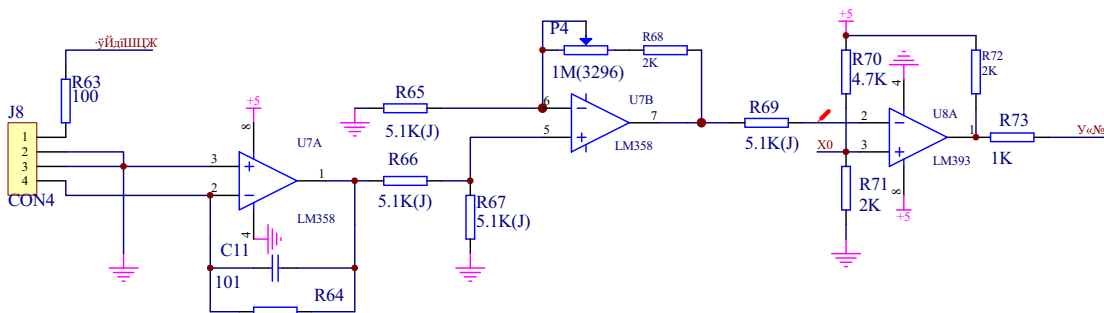

Fig. 17 UV Sensor Circuit Diagram
(2) PRO85UM, PRO85UM/S (Fig.17)
The width sensor is mainly made up of infrared transmitter and acceptor (refer to Fig.17). The transmitter lighting is sent into the acceptor from very small gap so as to accurately measuring the disk bar. 1Pin and 2 Pin are the connections for the transmitter, 3Pin and 4Pin are the connections for the acceptor. Make 2Pin connect with 4Pin, and then make them connect with the floor wire of CN3.